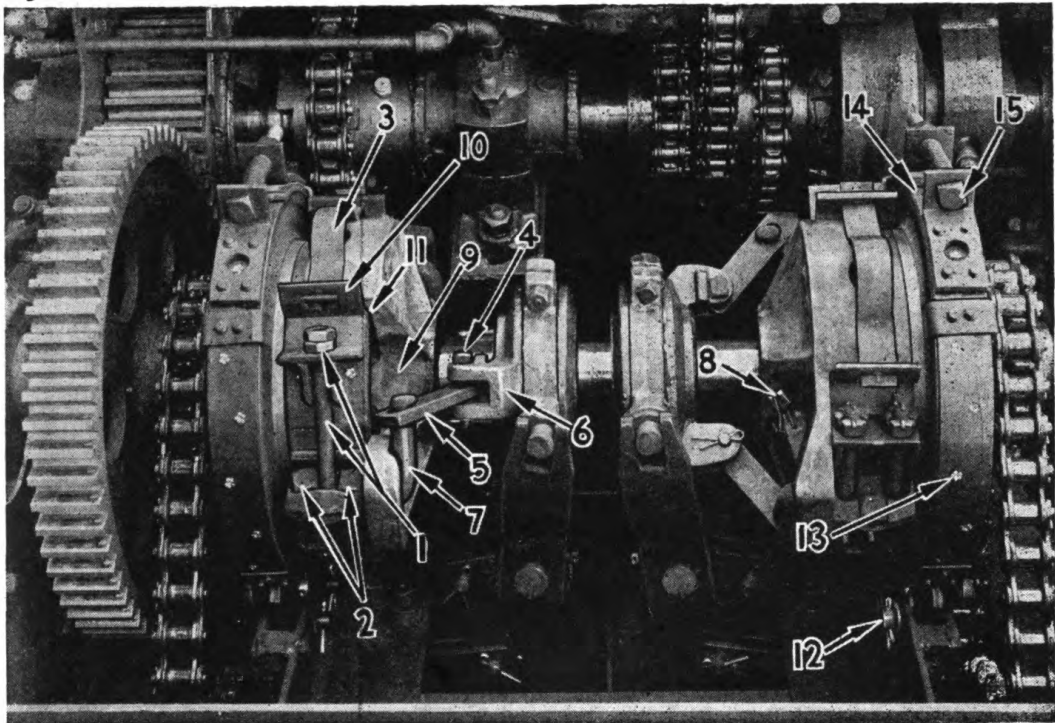

Figure 120. Replacing clutch bands and linings.
- (a) Remove both adjusting bolts (1), Figure 120.
- (b) Remove all four bolts (2). The slotted nuts on these bolts are held in place by cotter pins.
- (c) Remove both spring bands (3).
- (d) Remove the toggle pin (4) that secures the toggle link (5) to shifter collar (6).
- (e) Remove the main clutch lever (7).
- (f) Loosen both set screws (8) in the clutch carrier (9) and slide the clutch carrier back on shaft away from the clutch drum and remove bands. When sliding the carrier back be sure that the clutch bands remain in position on clutch drum as this will simplify their removal.
- (a) Remove the adjusting bolt (15), Figure 120 from brake bands.
- (b) Remove the anchor pin (12) from each brake band, remove bands.
- (c) Pry the old lining from the shell of brake bands and remove the brass rivets (13) with a chisel. Install new lining. This is done by placing the linings on the clutch band so the holes in the lining and shell are aligned. Secure with the brass rivets provided making sure the rivet heads are embedded in the linings so that the rivet heads will not drag on the brake drum (14).